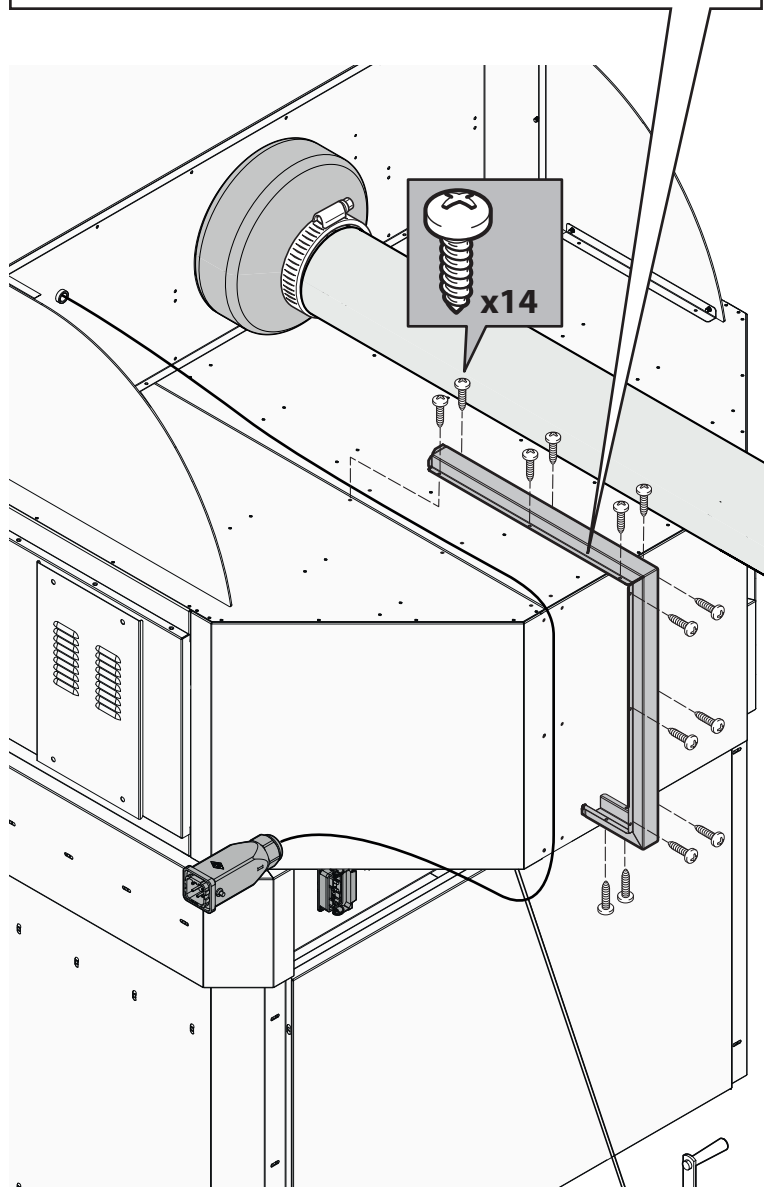

Fig.28.
- a power cable **A** (not supplied) of adequate capacity and section (see table on the following pages). It is very important that the power cable is correctly connected to the connector terminals: to make a correct connection, refer to **Fig. 28** point **4** or to the adhesive located on the back of the oven.